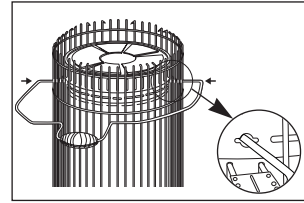

Fig.6
D) INSTALLING CARRYING HANDLE:(Fig. 6)